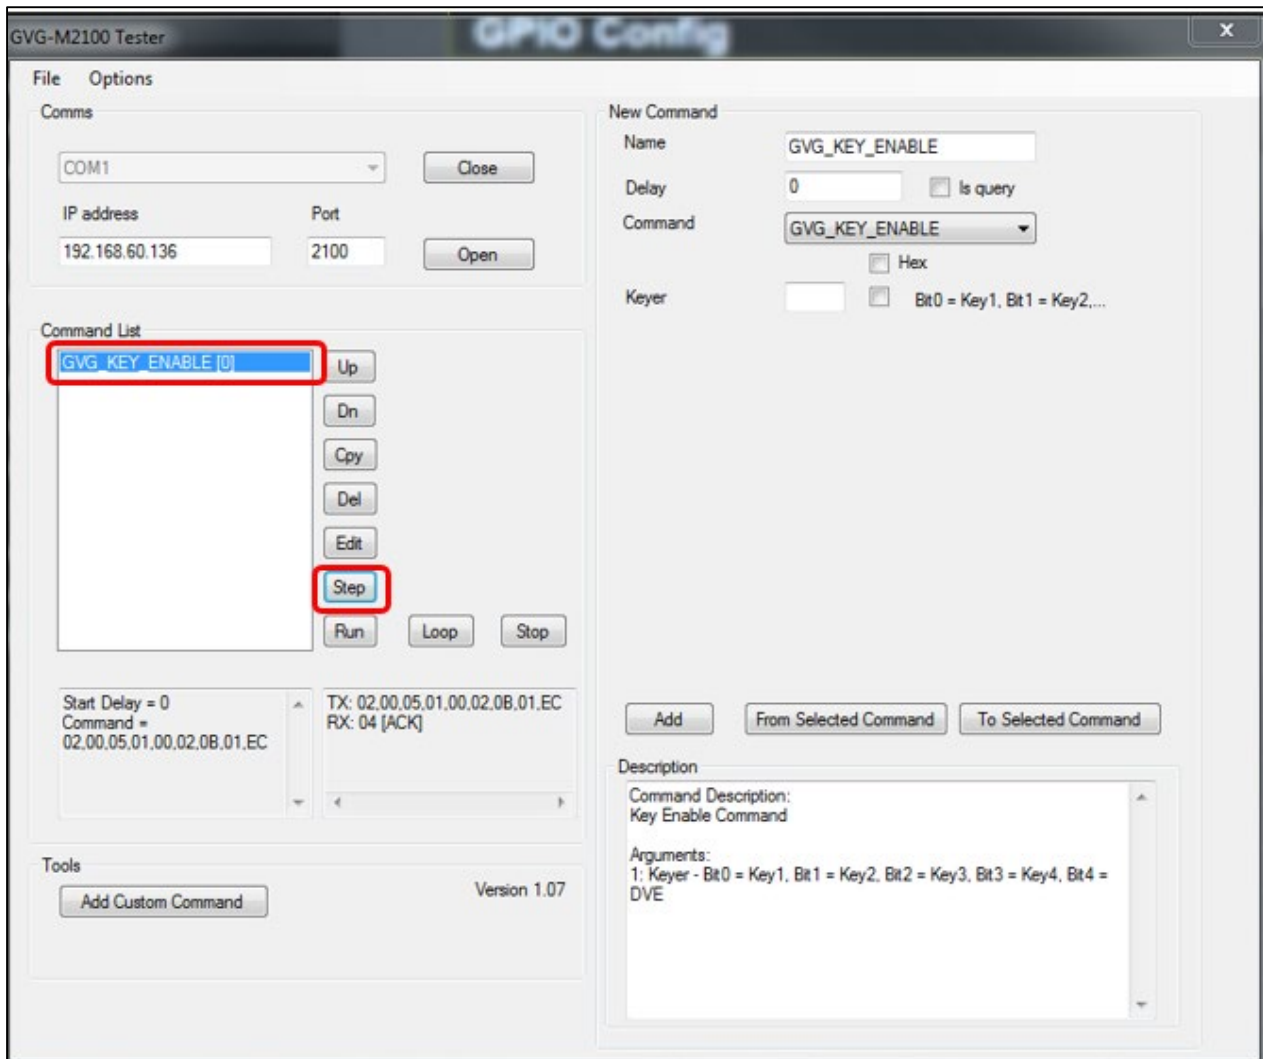

Figure 5-4: M2100 – Activate Keyer Command
- 2) Select 'GVG_KEY_ENABLE' in the 'Command List' and press 'Step' button to activate the Keyer, as Figure 5-4.